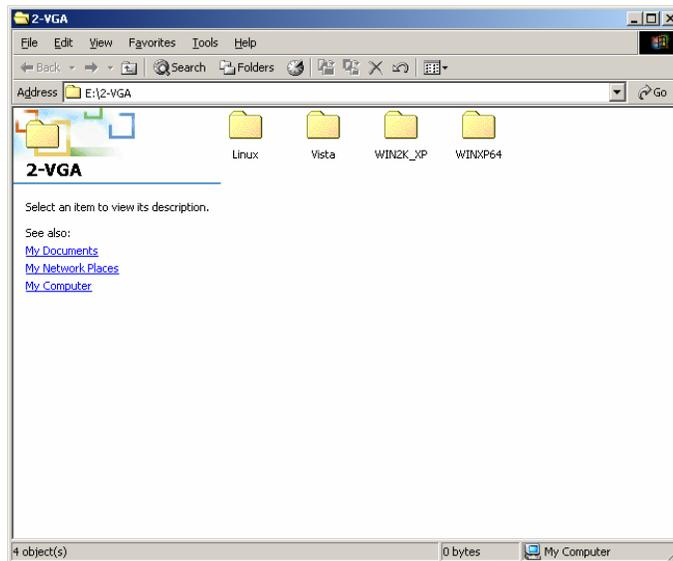

Figure 6-7: Select the Operating System
Step 2: A new window opens (Figure 6-7).
Step 3: Select the operating system from those shown in Figure 6-7.